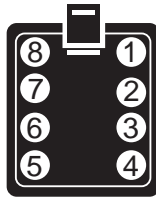

Figure 19. Wiring the Breakout Box
- b. Connect the leads to the breakout box from the specific devices: PTZ, alarm, relay, audio (refer to Figure 19 and Table F).